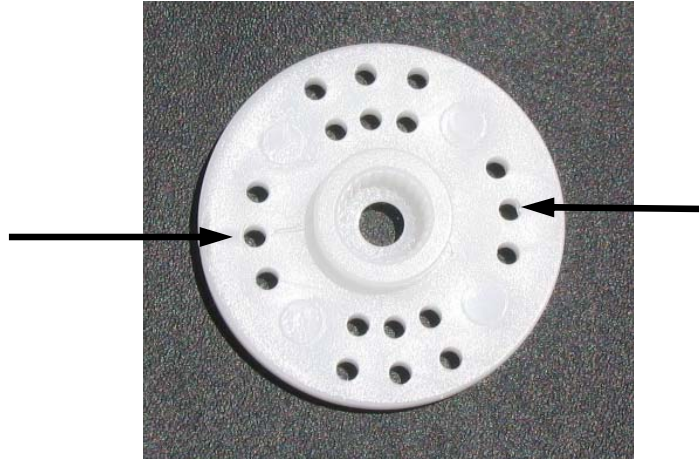

Figure 15
- Using a 1/8" drill bit, drill out the holes of (6) of the servo horns for the HexRod or (4) for the QuadRod as shown in figure 15.